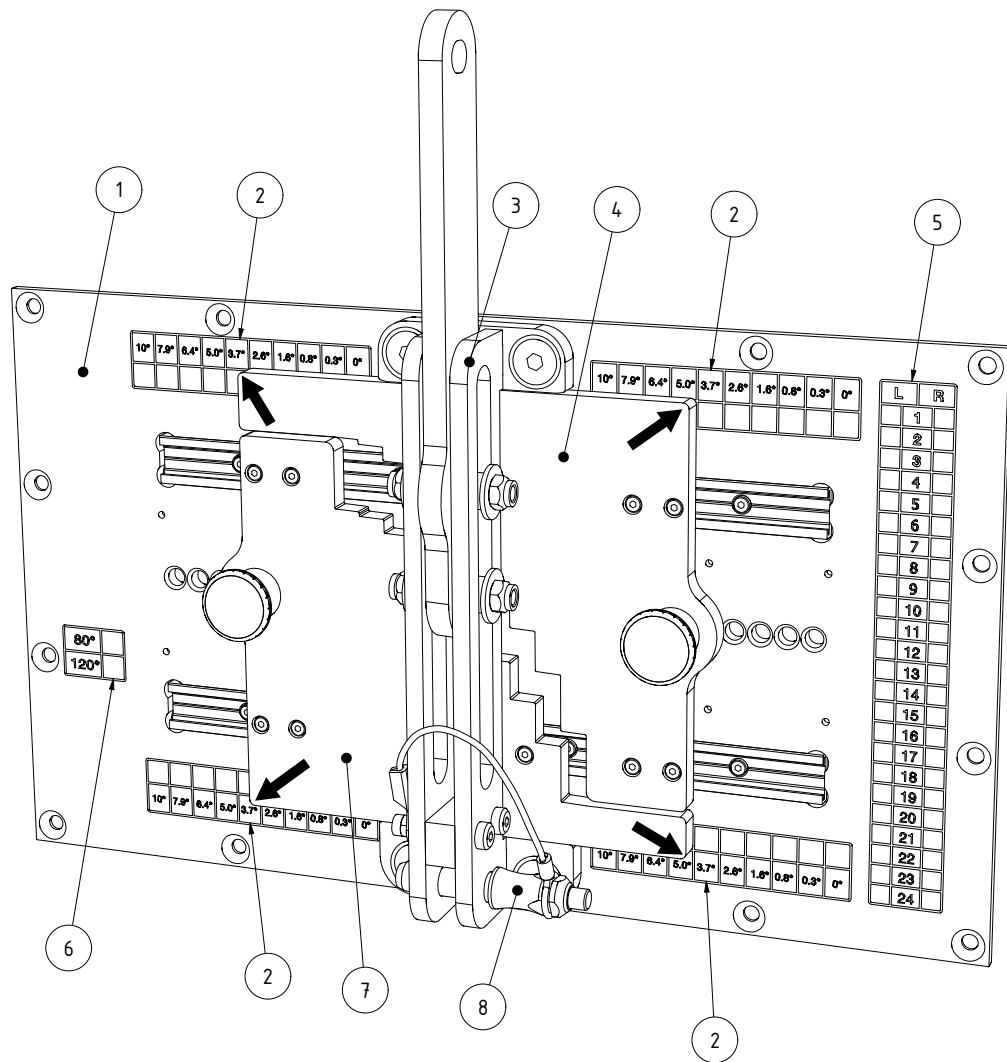

Figure 2.2 - rear rigging
The factory installed high frequency unit is marked on the VERA36's rear rigging (see figure 2.2 - pos.5). Depending on the application, it may be advantageous to replace the high frequency unit by the respective other. In this case, the identification mark on the rear rigging should also be changed. The factory marking can be removed using acetone.